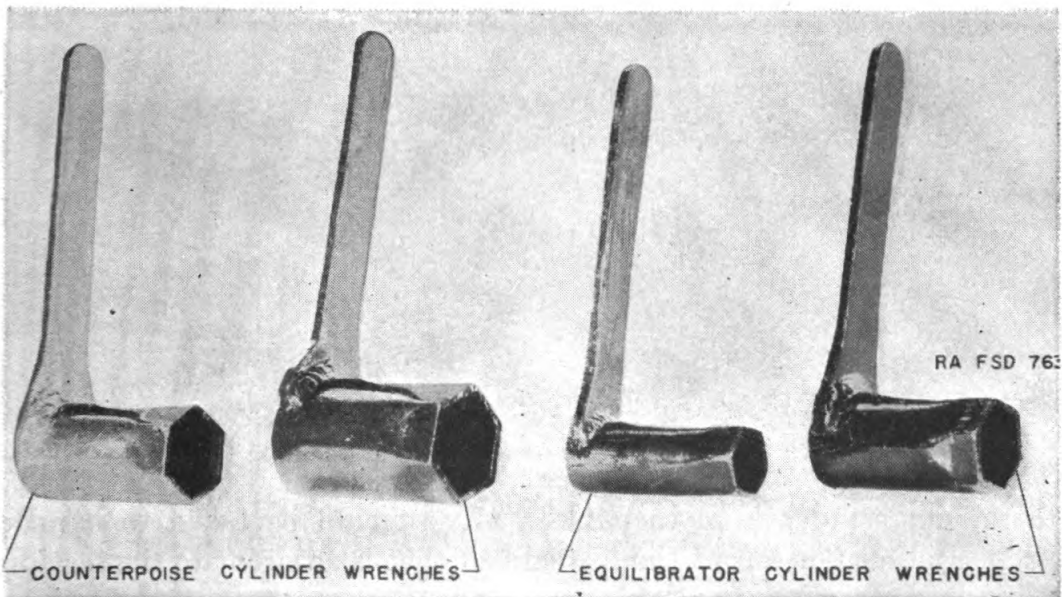

FIGURE 138.—Counterpoise and equilibrator cylinder wrenches.
(6) *Counterpoise and equilibrator cylinder wrenches* (fig. 138).—These two sets of wrenches are used to turn the adjusting nuts of the counterpoise and equilibrator mechanisms. The section on adjustment describes their use.